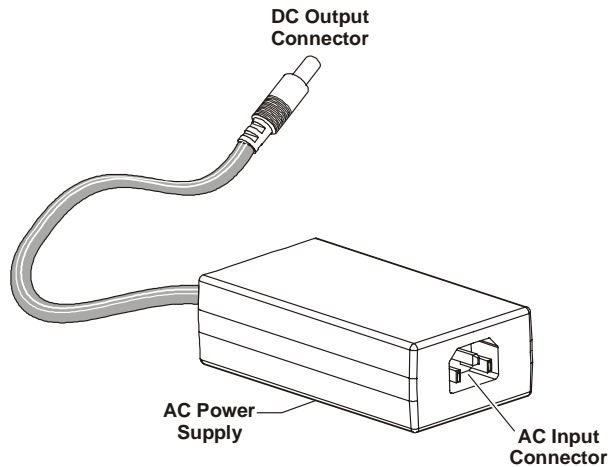

Figure 4. AC Power Supply
- AC power supply for the 6-Wire Control Head, provides DC power to the 6-Wire Control Head (see Figure 4)
The AC power supply is a compact power supply unit that provides the required operating voltage (nominally 13.8 VDC) for the 6-Wire Control Head. Figure 4 shows a general view of the AC power supply.